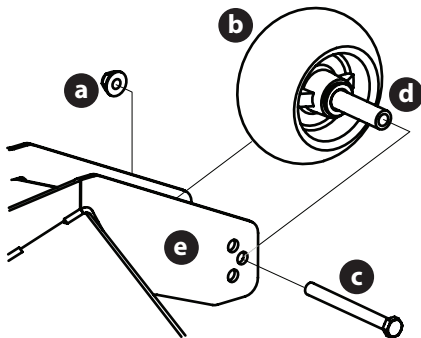

Fig. 31
- Remove the lock nut (a) securing one of the front gauge wheels (b) to the deck. Remove the front gauge wheel (b), hex screw (c) and spacer (d) (Fig. 31).
- Insert the hex screw (c) into one of three index holes in the front gauge wheel bracket (e) that will give the front gauge wheel (b) a 1/4-1/2" (6.4 to 12.7 mm) clearance with the ground (Fig. 31).
- Note the index hole of the just-adjusted front gauge wheel (b) and adjust the other front gauge wheel (b) into the respective index hole of the other front gauge wheel bracket (e) (Fig. 31).